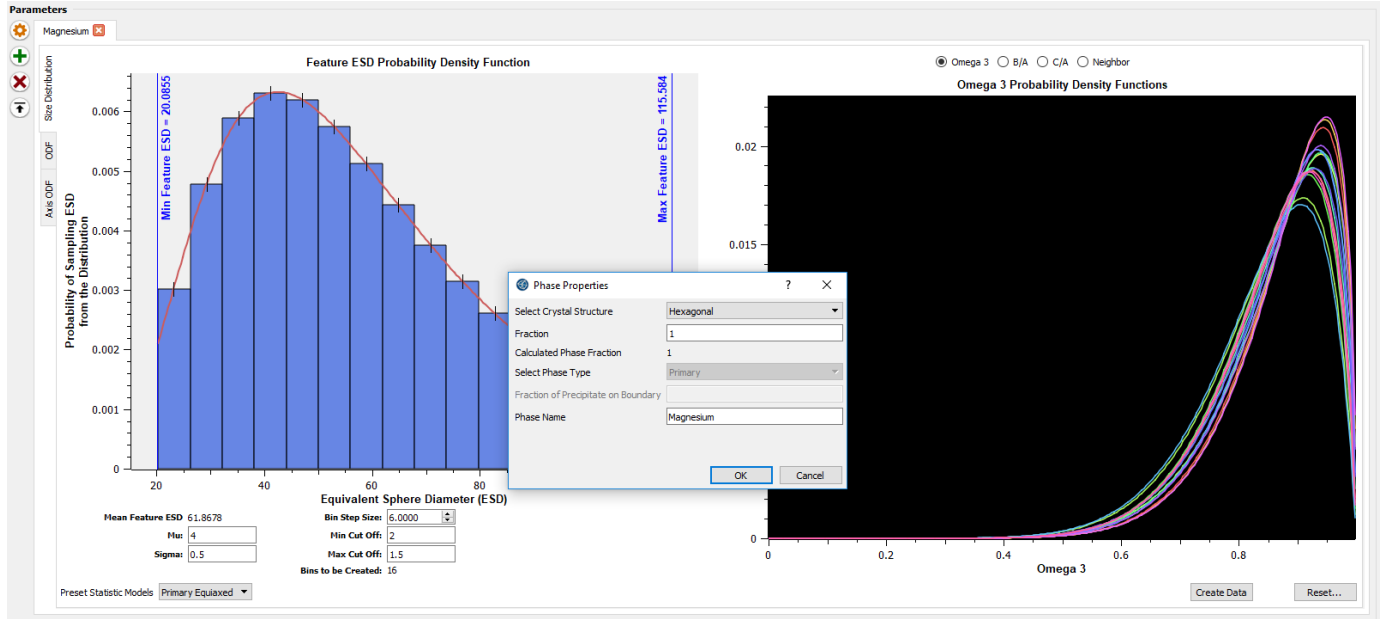

Figure 1: Size distribution
1. Copy the **StatsGenerator** filter to the pipeline window. This filter is useful to generate the statistics based on which the microstructure is reconstructed. The statistics referred to here is the grain-size distribution, ODF(Orientation Distribution Function), shape distribution and MDF(Misorientation Distribution Function). These can be specified either through the parameters window or an external file. Before we start specifying this microstructural information, we need to specify something about the material itself. This can be done by clicking on the yellow gear button on the top-left corner after which a window pops up to input phase properties. Select crystal structure as **Hexagonal**, **Fraction** as **1**(we are dealing with a single phase polycrystal) and **Phase Name** as 'Magnesium', as shown in Fig. 1